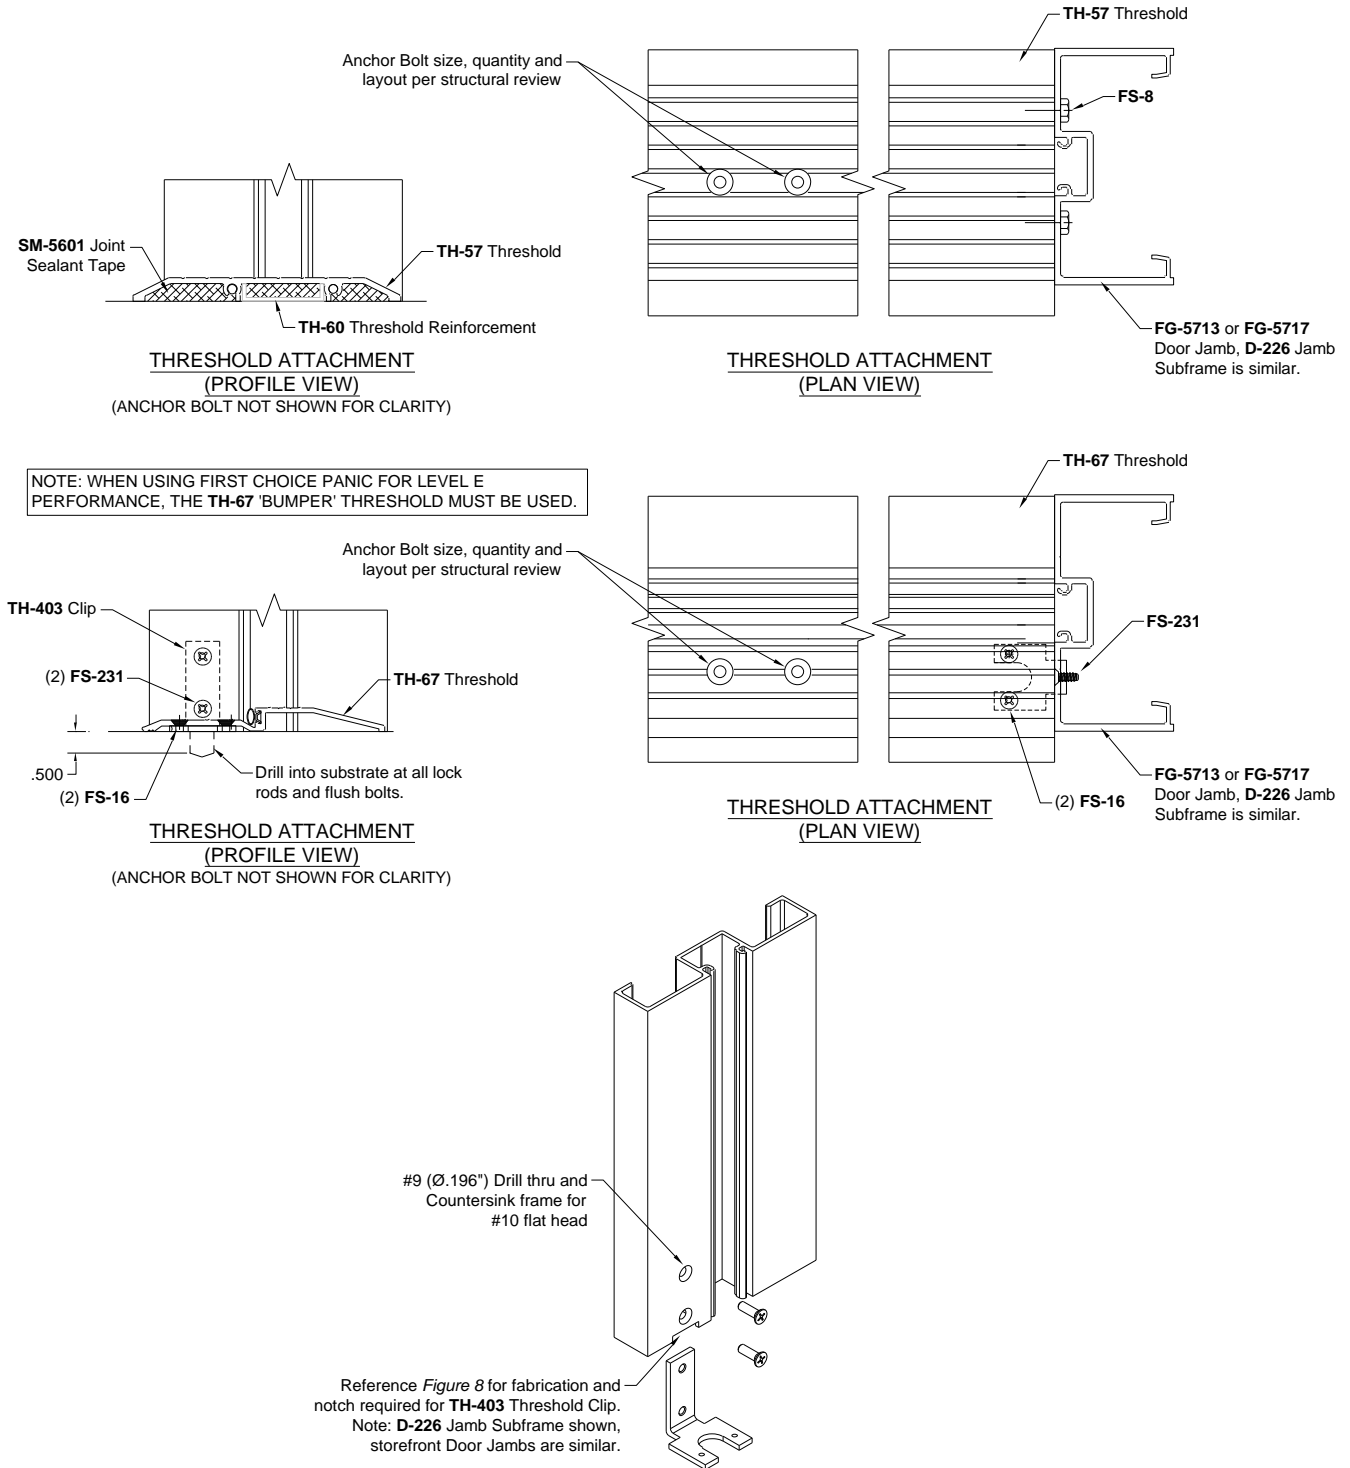

Figure 12: Attaching Threshold to Door Jambs
- 4.5 **TH-67** Threshold will attach to door jamb via **TH-403** Threshold Clip. Clip slots into interior of Door Jamb. Countersink Jamb for #10 Fastener and attach Clip with (2) **FS-231** (#10-24 x 5/8" PFH). When using the **FG-5717** Door Jamb, drill access holes in interior web for attachment of Clip to Jamb. **TH-67** attaches to Clip using (2) **FS-16** (#10-24 x 1/2" PFHUC). Reference *Figure 12* on Page 23.